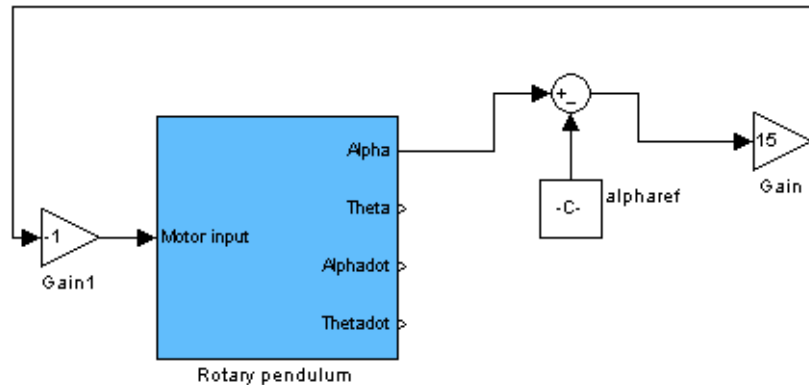

Figure 2: Simulink model for PD control.
1. Modify the Simulink model you downloaded so that it looks like the one shown in Fig. 2. Set the **Gain** block k_p to 8. Make sure the block **Gain1** is set to -1 , to get negative feedback. For this part of the lab you can set the **Constant** block `alpharef` to 0.